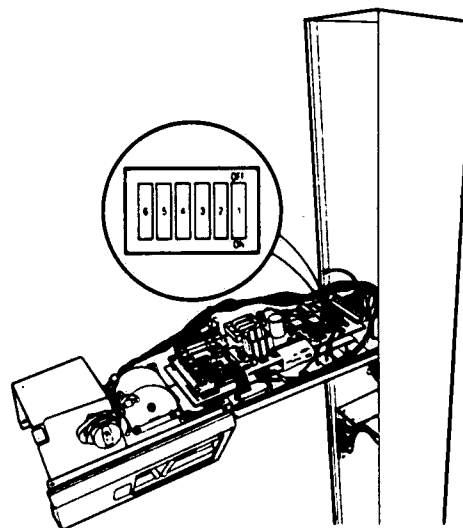

FIGURE 7-6 – Printer PC Board Dip Switches
2. Make the appropriate settings on the Dip switches (eight) which are then accessible through the cutout in the sheet metal (Figure 7-6).